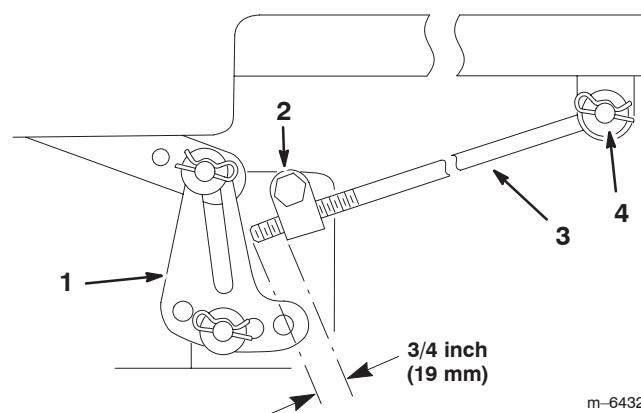

Figure 39
5. Measure the length of the rod extending out of the adjusting block on the sides of the chassis (Fig. 39).
6. If the rod length is **not** a 3/4 inch (19 mm), remove the hairpin cotter and washer from the end of the adjusting rod (Fig. 39) and turn the rod until the 3/4 inch (19 mm) dimension is obtained.